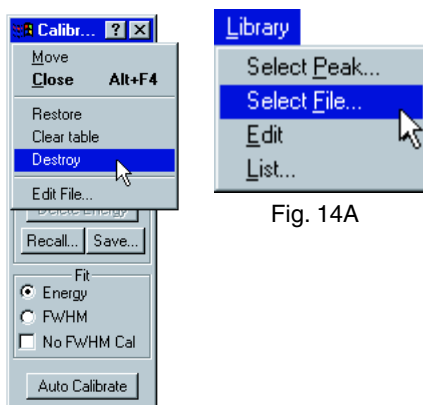
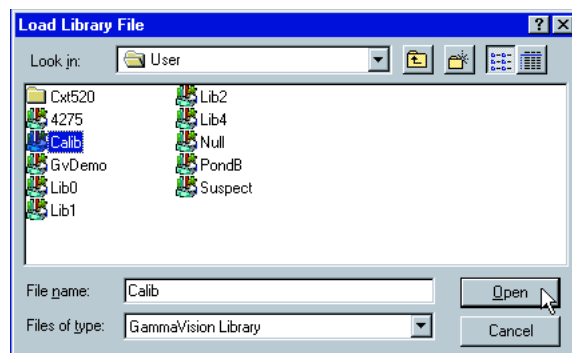

Fig. 14A
Fig. 14B
1.13 Choose Library, Select File (Fig. 14A). The **Calib** library resides in the **User** directory (by default). If you have moved the **Calib** library, browse to the correct directory. Select the **Calib** library and click **Open** to load this library (Fig. 14B).